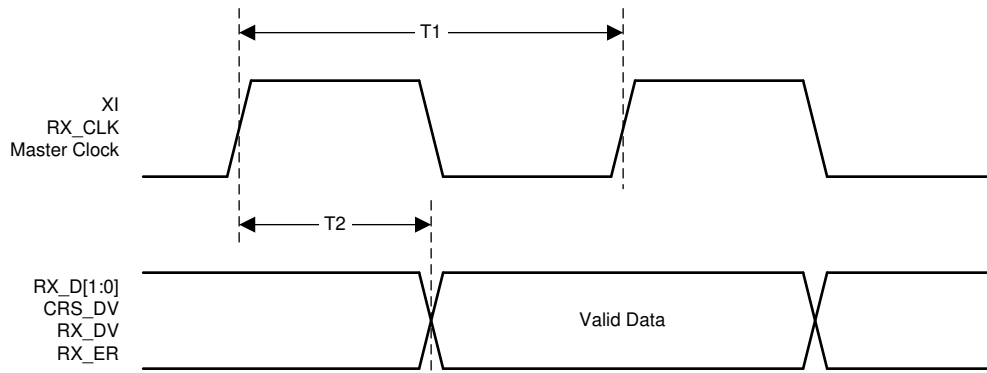

Figure 7-10. RMIITransmit Timing
- (1) Ensured by production test, characterization or design.
(2) See Figure 7-10.